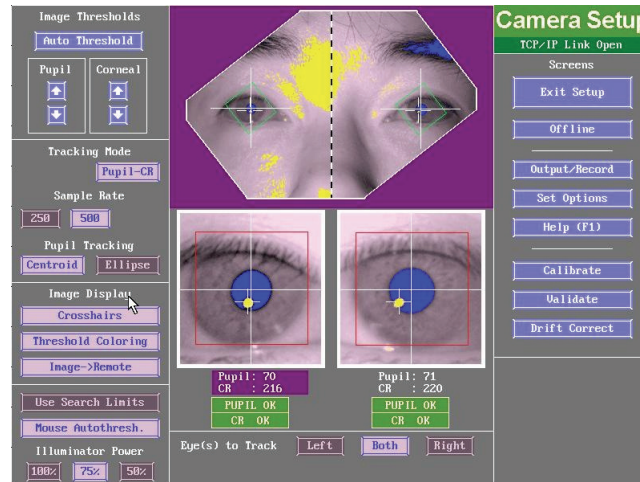

Figure 3-14. Camera Setup Screen Desktop Mount (Angled), Binocular Recording
- 19) The operation of the EyeLink Remote is influenced by ambient lighting. In general, the pupil shrinks in a bright environment and dilates with dim lighting. It’s important that the user check the pupil size reported in the status panel (in the Offline, Calibrate, Validate, Drift Correct, Output and Record screens; see Figure 3-14). If a yellow size warning is constantly observed, it is likely that the pupil size is too small and as a